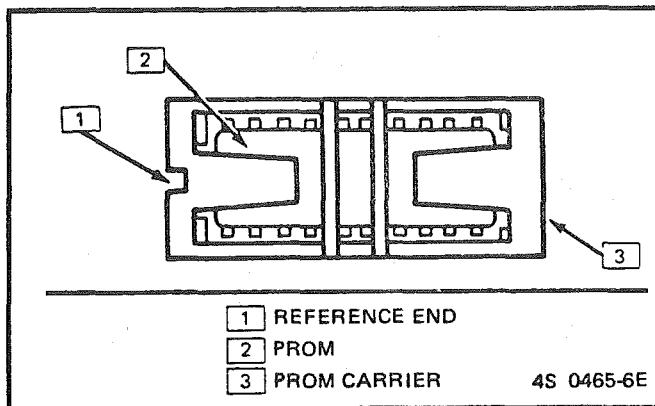

Figure C1-8 PROM in PROM Carrier
Using the rocker-type PROM removal tool, engage one end of the PROM carrier with the hook end of the tool (see Figure C1-8). Press on the vertical bar end of the tool and rock the engaged end of the PROM carrier up as far as possible. Engage the opposite end of the PROM carrier in the same manner and rock this end up as far as possible. Repeat this process until the PROM carrier and PROM are free of the PROM socket. The PROM carrier with PROM in it should lift off of the PROM socket easily. PROM carrier should only be removed by using the pictured PROM removal tool. Other methods could cause damage to the PROM or PROM socket.
2. For correct reference of PROM in carrier, Figure C1-8.